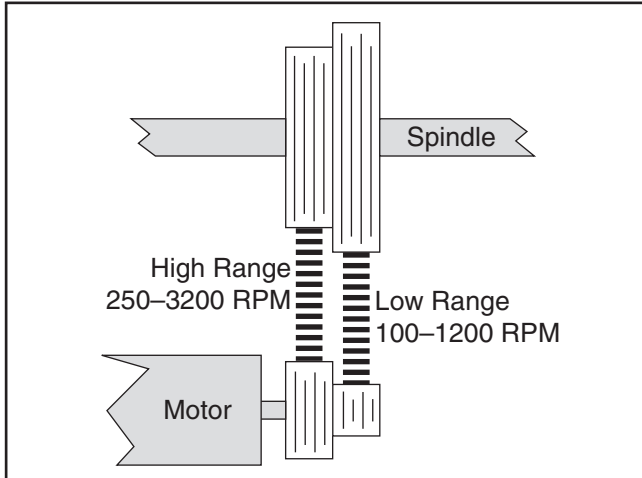

Figure 34. Speed range belt positions.
5. Reach into the belt access cavity and roll the belt onto the desired set of pulleys (see **Figure 34**).